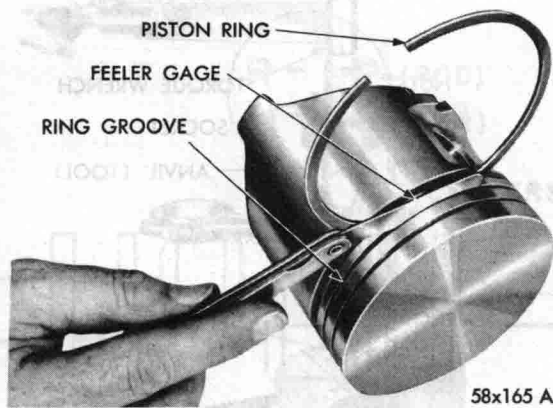

Fig. 45—Measuring Piston Ring Clearance
(2) Insert the feeler stock in gap. The ring gap should be between .013 to .025 inch. This measurement is the same for all rings.
(3) Measure the side clearance between piston ring and ring land (Fig. 45). The clearance should be .0015 to .003 inch for the top compression ring and the intermediate ring, and .001 to .003 inch for the oil control ring.
(4) Starting with the oil ring expander, place expander ring in the lower ring groove and install oil control ring.
(5) Install the compression rings in the middle and top grooves. Use ring installer Tool C-3673 for the 383 cubic inch engine and Tool C-3671 for the 413 cubic inch engine.